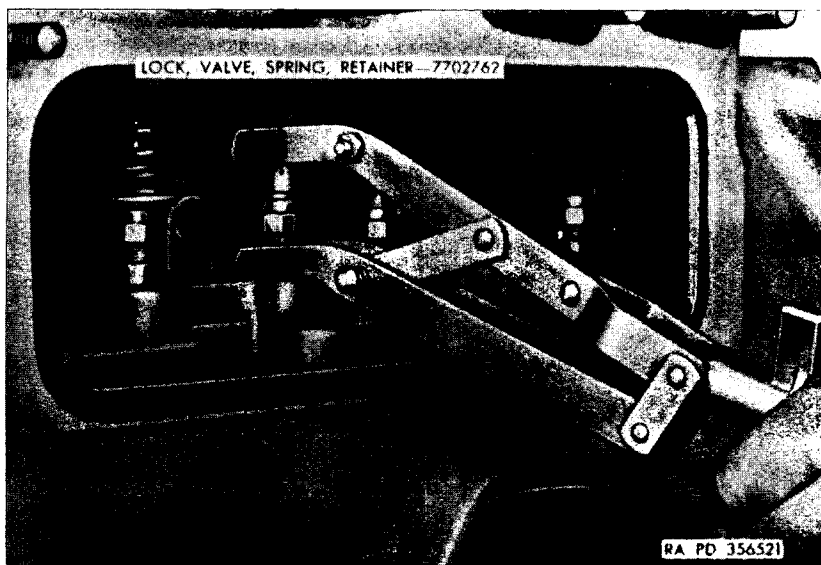

Figure 29. Removing valve spring retainer lock with valve lifter-41-L-1410.-
- (1) Remove valve compartment covers.
- (2) Turn crankshaft until the front valve is all the way down on its seat and insert jaws of valve lifter between the lower end of the valve compression spring and the cylinder block, with the cupped jaws up. Hold the valve down and screw up the valve lifter until the valve spring is fully compressed. Remove the valve spring retainer locks (fig. 29) from the lower end of the valve stem. Remove the lifter and pull the valve